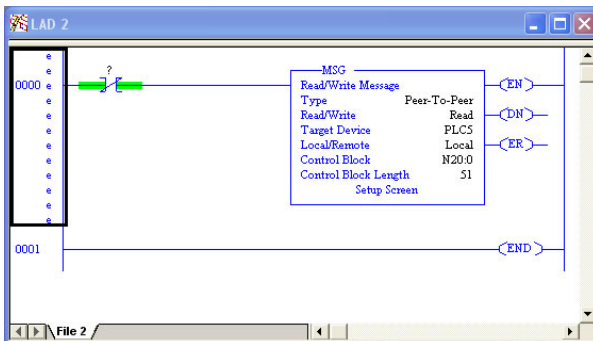

Figure 115: PLC Program after MSG Instruction Configuration
- f) Close the dialog box. At this point, the program should appear as shown in Figure 115.